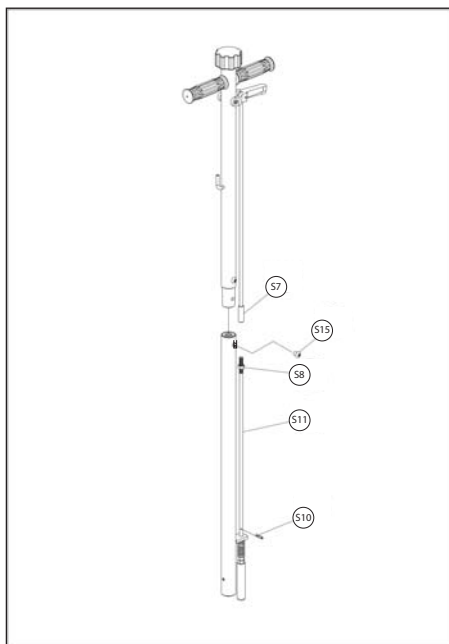

Figure 1
- Assemble handle (22) by sliding top handle half into bottom handle half and securing with screw (S15).
- Nuts (S8) can be adjusted to give you precision air control. (See figure 1 below)